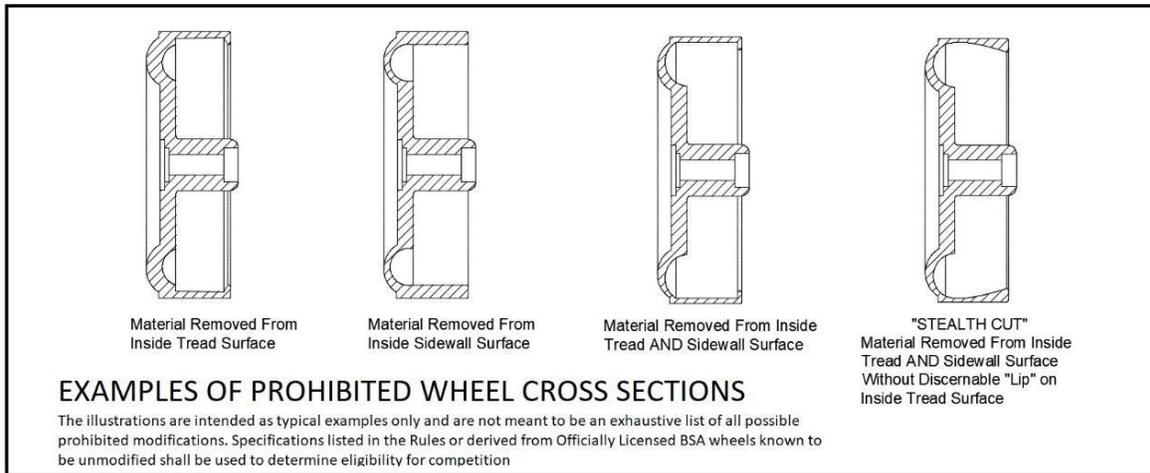

Figure 3 Examples of Prohibited Internal Modifications
- 4.5. Wheel modifications to the interior profile of the wheel are prohibited (See Figure 3 Examples of Prohibited Internal Modifications: